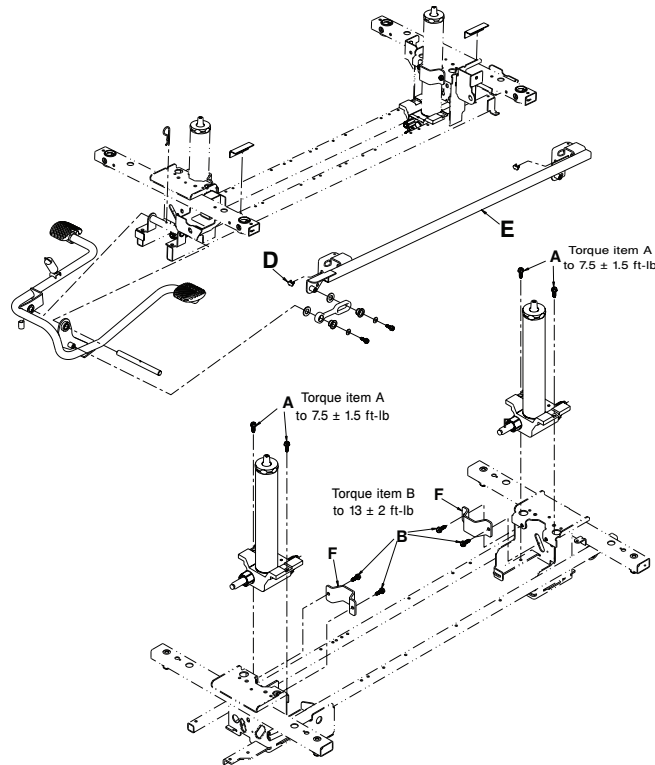

Figure 10 – Replace the jack
5. Using your hand, remove the pump ram plug (D) (Figure 10).